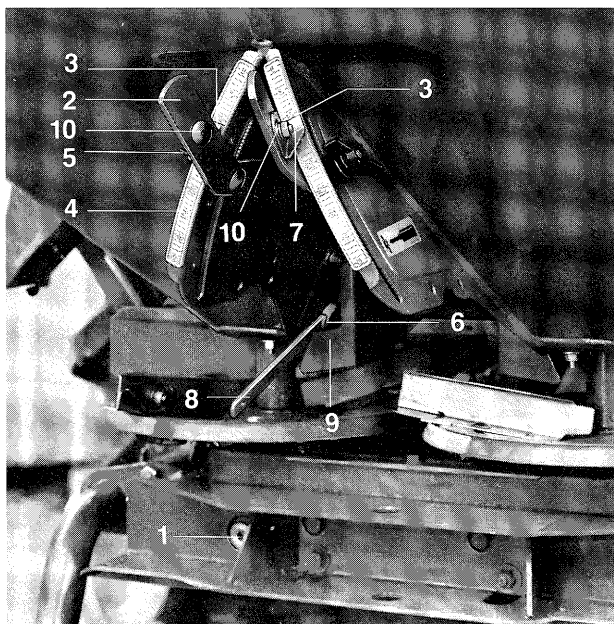

Fig. 9.2
**If this is not the case (exposed hopper opening too small respectively too large) readjust the pointer (fig. 9.2/7) at the setting lever as follows:**
- Insert setting gauge (option) into the hopper opening and clamp its handle (Fig. 9.2/8) behind the deflector (Fig. 9.2/9).
- Swing shutter lever (Fig. 9.2/2) against the shutter slide and tighten with thumb bolt (Fig. 9.2/5).
- Slacken pointer fixing (Fig. 9.2/10).
- Set pointer read off edge (Fig. 9.2/3) to setting figure „11“ of the scale and lock pointer (Fig. 9.2/7) in this position to the setting lever.